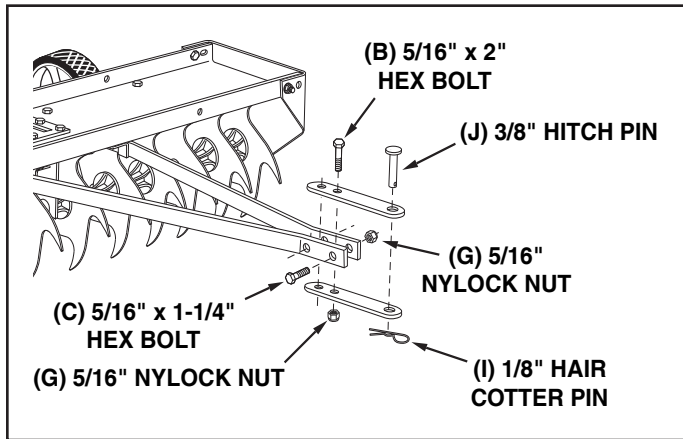

FIGURE 13 **FRONT VIEW**
20. Turn the aerator right side up and assemble the front ends of the hitch arms together using two 5/16" x 1-1/4" hex bolts (C) and 5/16" nylock nuts (G). **Do not tighten yet.** See figure 13.
21. Assemble the two hitch brackets to the top and bottom of the hitch arms using two 5/16" x 2" hex bolts (B) and 5/16" nylock nuts (G). **Do not tighten yet.** See figure 13.
22. Assemble the 3/8" hitch pin (J) through the hitch brackets and secure it with a 1/8" hair cotter pin (I). See figure 13.